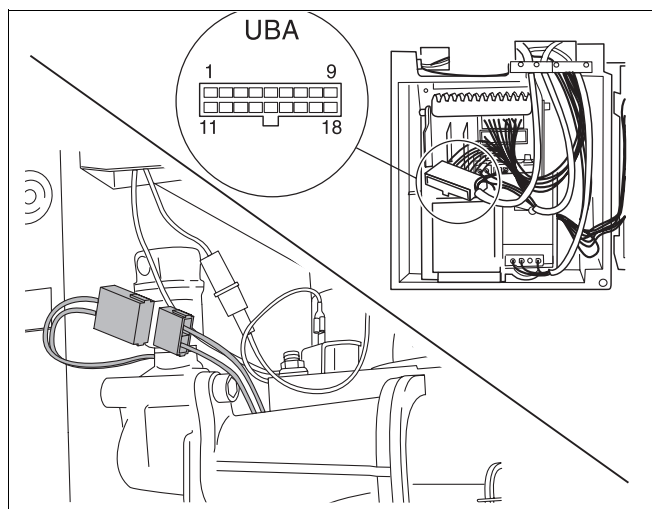

Fig. 69 600 Series 11S / 19S / 24S / 24C:
- Use a continuity tester to check the cable between the plug-in connection and the 20-pin plug in the UBA. The test should be carried out on connections 05-20 and 18-20 (fig. 69).